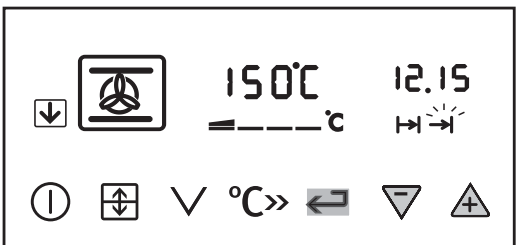

Fig.8.
- vi) To set the 'End Time'. Press the Time Selector button (↵) until the 'End Time' indicator neon (⏏) flashes. Press the increase control button (▲) until the required stop time is displayed, e.g. 12.15 p.m. as Fig. 8. If necessary depress the decrease control (▽) until the correct time interval is achieved.